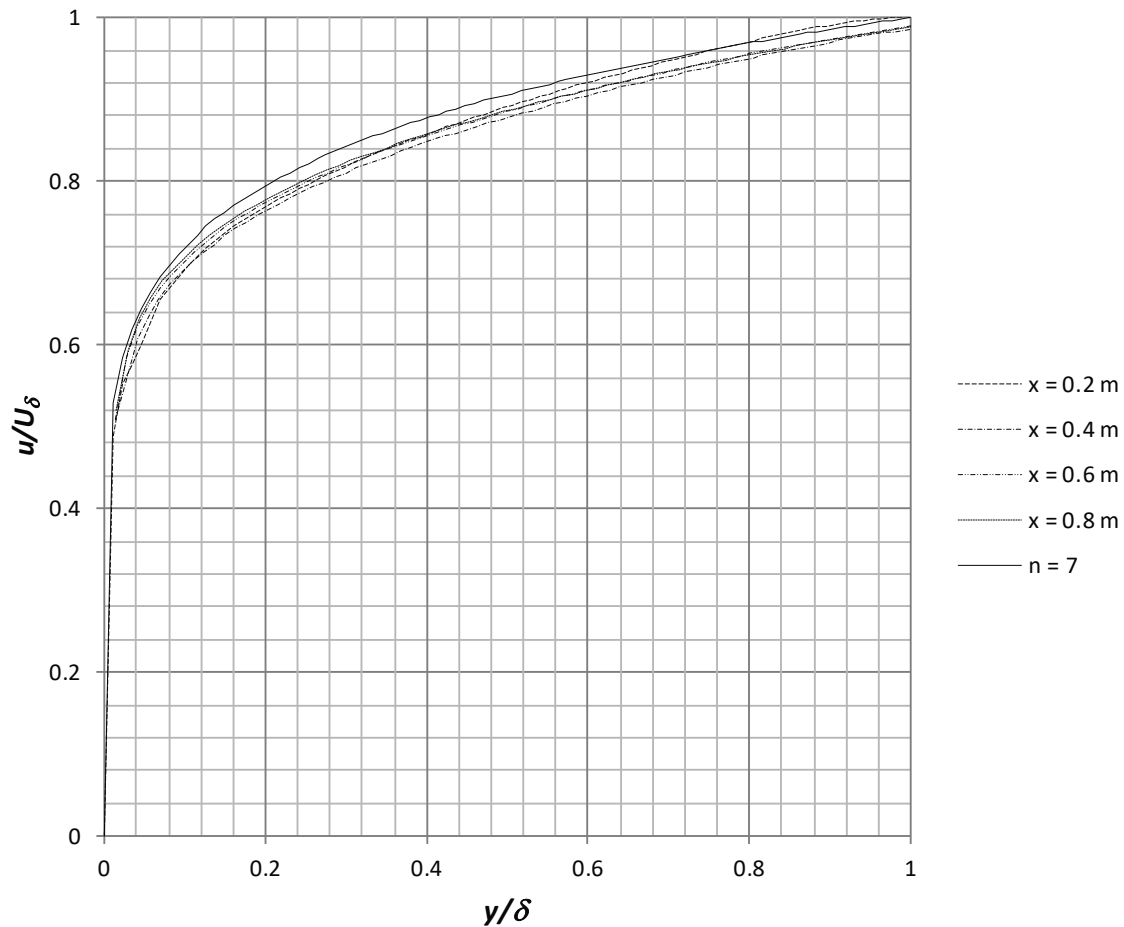

Figure 2.31 Velocity profiles compared with 1/6 power law for turbulent profile
31. Place the file “**graph 2.31**” on the desktop. Repeat step **24** and choose the sketch **x = 0.2, 0.4, 0.6, 0.8 m** and check the box for **Velocity (X)**. Rename the *xy*-plot to **Comparison with One-Sixth Power Law**. An Excel file will open with Figure 2.31. In figure 2.31 we compare the results from Flow Simulation with the turbulent profile for $n = 7$. The power –law turbulent profiles suggested by Prandtl are given by